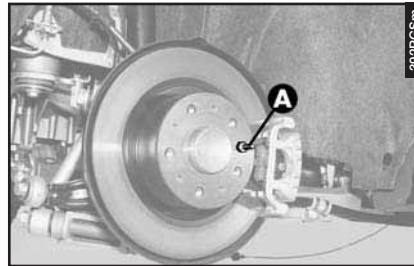
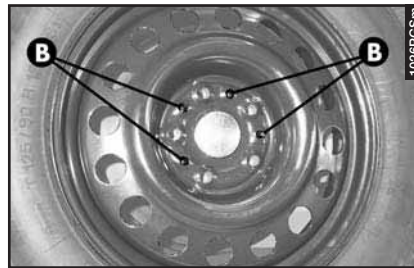

fig. 10
fig. 11
– Install the spare wheel making the hub pin (**A-fig. 10**) coincide with one of the holes (**B-fig. 11**) of the wheel.
– Install the wheel making the hub pin (A-fig. 10) coincide with one of the holes (B-fig. 11) of the wheel.